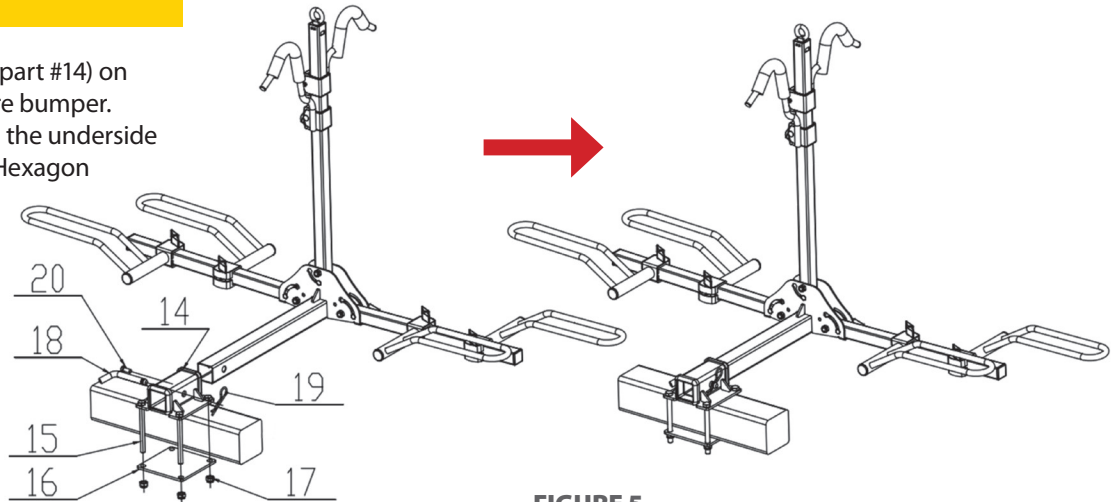

FIGURE 5
Position the Bumper Adapter (part #14) on to the top of the 4" - 4.5" square bumper. Position the Plate (part #16) on the underside and attach using (4) M12x140 Hexagon Bolts and (4) M12 Locknuts (parts #15 and #17). Tighten the bolts securely. Insert Support Base Assembly into Bumper Adapter, use (1) Hitch Pin, (1) Clip and (1) M10x20 Hexagon Bolt (parts #18, #19 and #20) to attach. (See **Figure 5**)